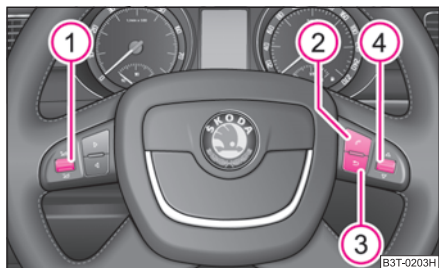

Fig. 142 Multifunction steering wheel: Control buttons for the telephone
The voice control of the telephone is activated by pressing the button PTT on the multifunction steering wheel ⇒ page 139, fig. 142.
The driver can set the basic functions of the telephone by simply operating the buttons located on the steering wheel so that he can concentrate on the traffic situation without being distracted as little as possible by operating the telephone ⇒ fig. 142.
- Press the button PTT **1** ⇒ page 139, fig. 142.